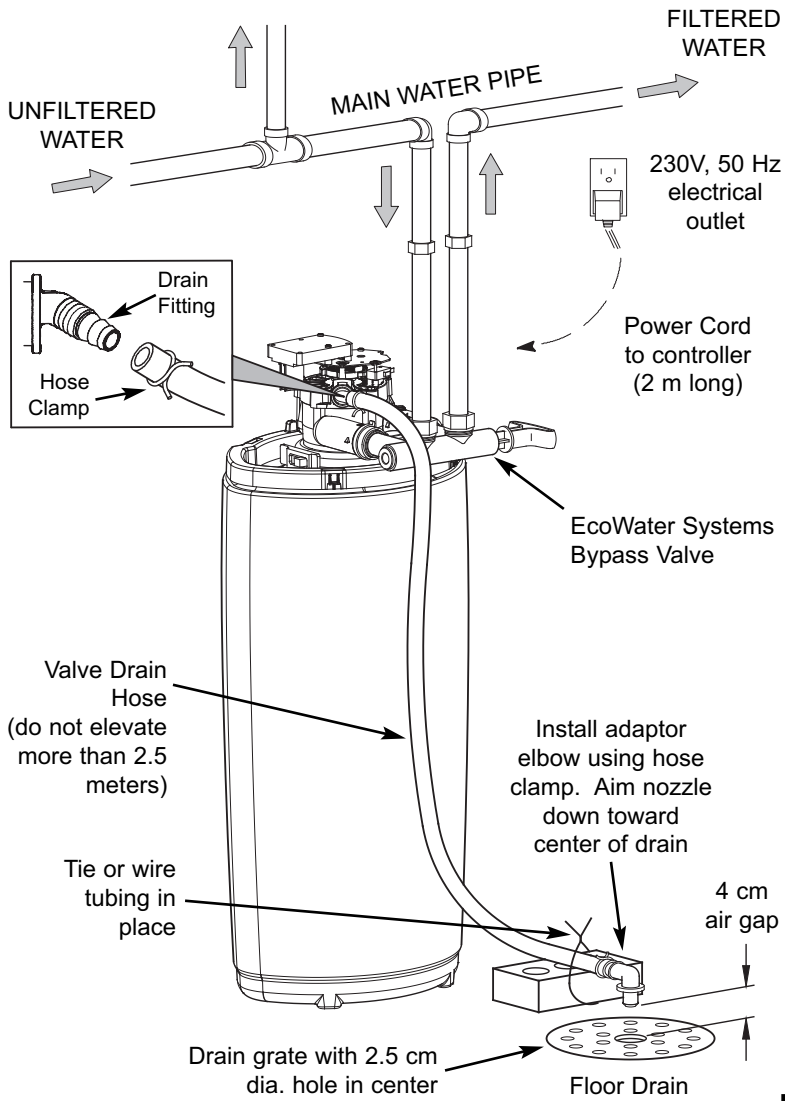

FIG. 1
1. Make sure the drain hose is attached to the Central Water Filtration System and the other end is secured over a drain (See Figure 1).